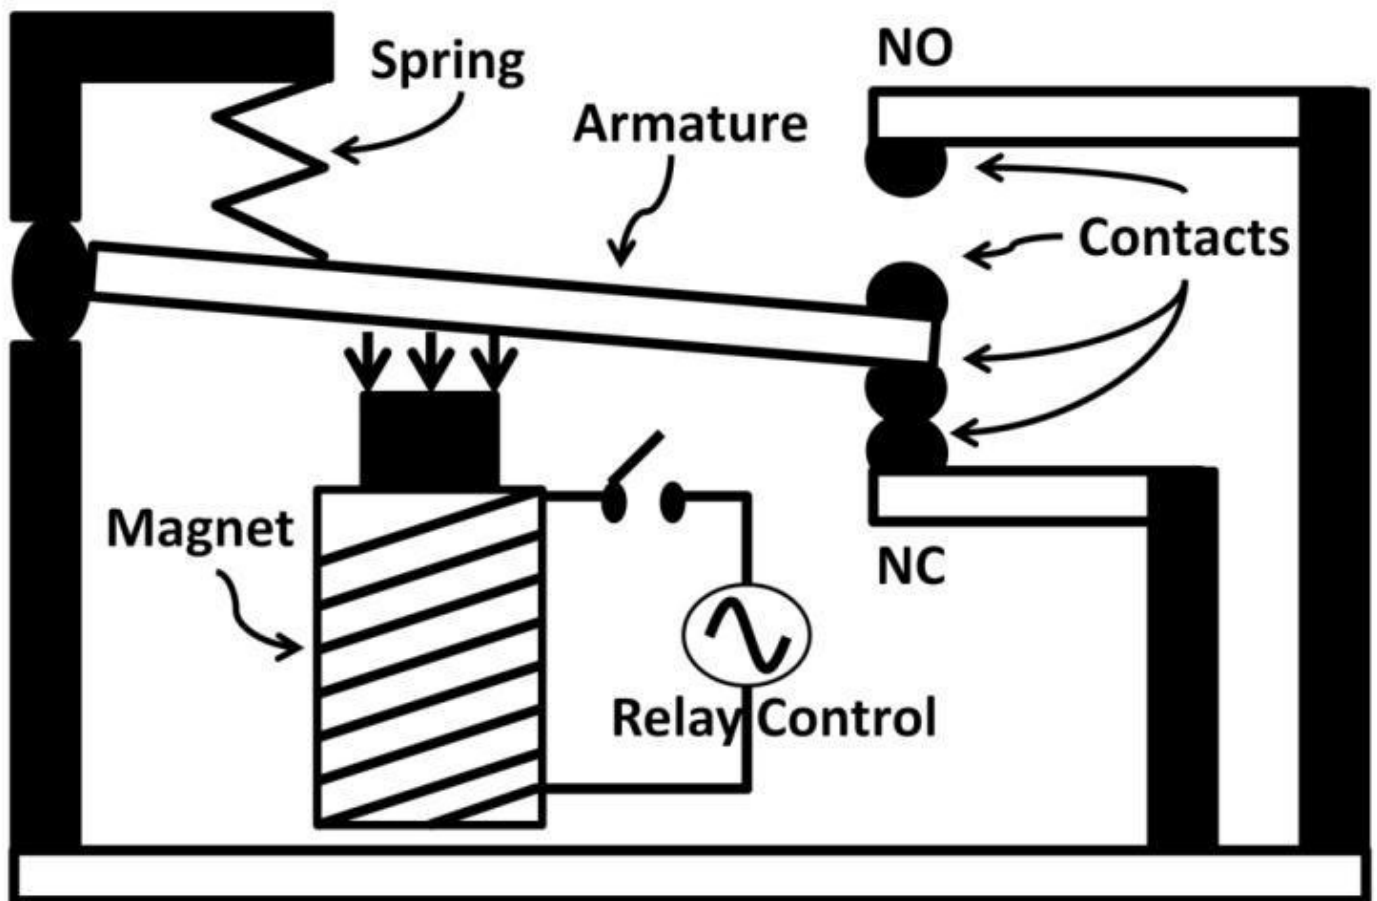

Figure 8.2: Relay diagram
The development of PLCs first started with General Motor (GM) in the late 1960s within its Hydra-Matic division. The original objective of the PLC was to replace bulky, costly relays, eliminating cables in the manufacturing systems. The benefits are that they reduce cost and increase the range of functions, versatility, and flexibility while achieving higher reliability. A relay acts like a switch applying electromagnetic theory to operate. Its main function is to control mechanical movements (see figure 8.2). By closing the switch (above the relay control AC source), an AC control signal is applied to the